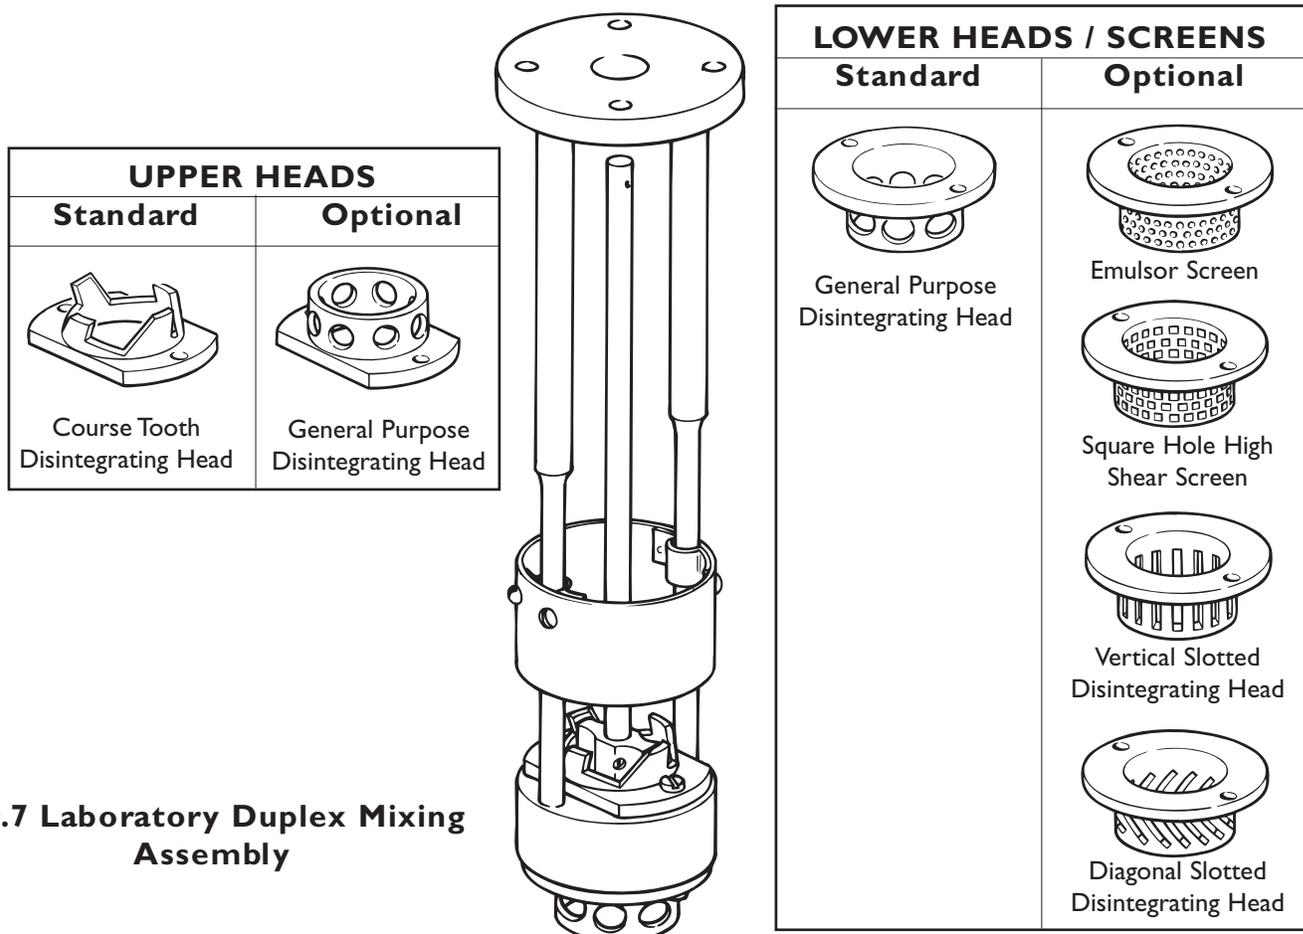

Fig.7 Laboratory Duplex Mixing Assembly
4.7.1 Laboratory Duplex Mixing Assembly (Fig. 7)